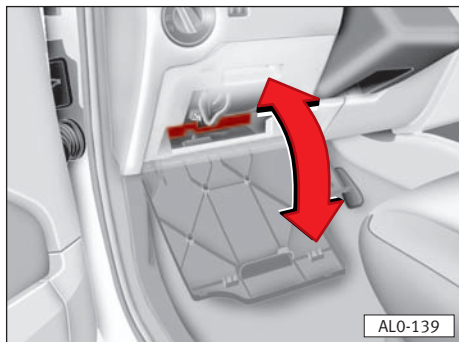

Fig. 181
The fuses are located behind a cover in the instrument panel ⇒ fig. 45 and fig. 181.
- Take cover off ⇒ fig. 181